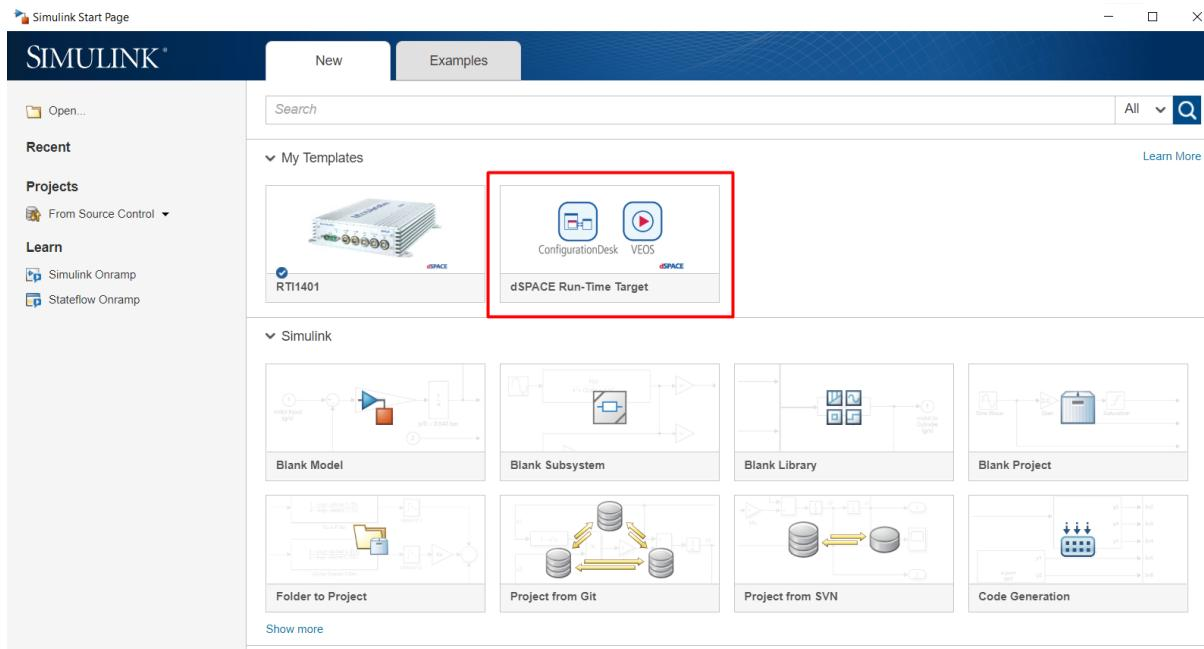

Figure 13.56: Create a Simulink model.
- 2) Create a new Simulink model (henceforth referred to as `dSPACE-MABXIII.slx`) using the dSPACE Run-Time Target template provided by dSPACE and save it in the `BasicExample` folder (see Figure 13.56).